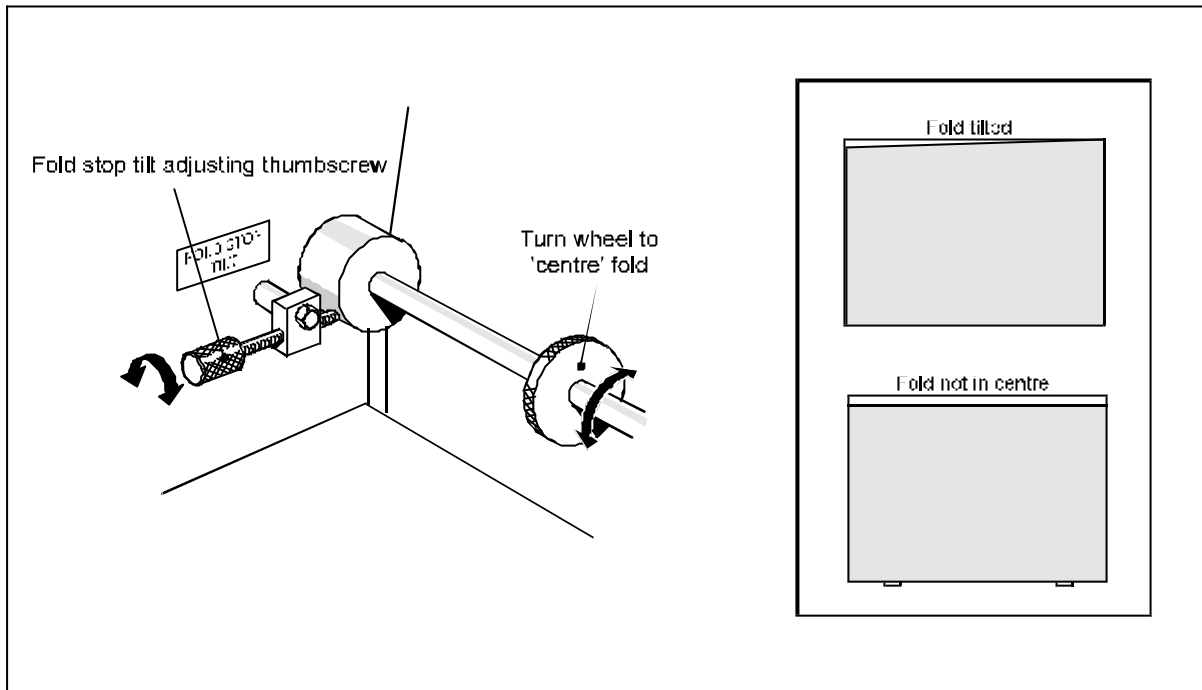

Figure 6 - Fold stop tilt.
4. If fold line is not perpendicular to booklet edges, this can be corrected by adjusting the fold stop tilt thumbscrew, figure 6, on the left-hand side of the fold stop adjusting shaft. Loosen the locking nut and turn the thumbscrew clockwise to raise the left-hand end of the fold stop, or anti-clockwise to lower. Tighten locking nut.